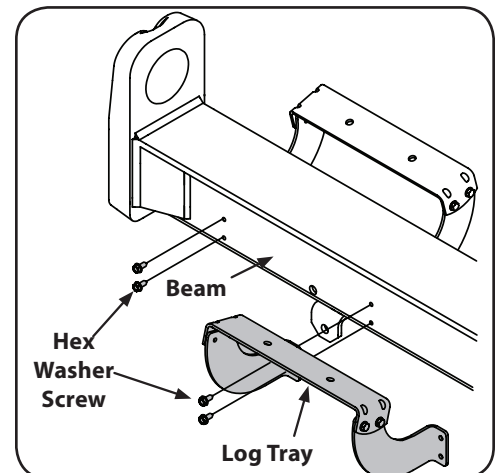

Figure 3-5
15. Disconnect the log tray from the beam on the control valve side by removing the two hex washer screws that secure it to the beam weld brackets and the two hex washer screws in the beam. See Figure 3-5.